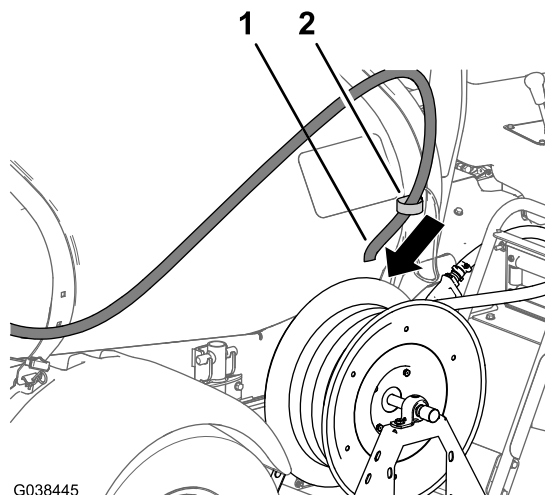

Figure 97
5. Assemble the inlet hose through the support clamp at the forward strap of the sprayer tank (Figure 97).